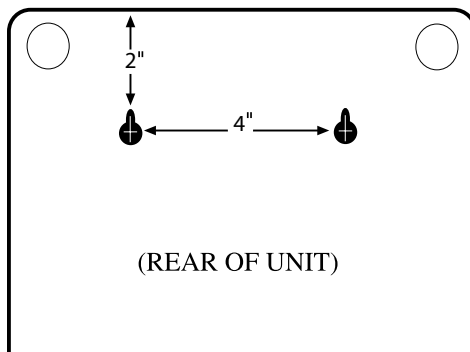

Figure 2-1. Wall Mount
**Flat Mount:** Place the Model 400 on top of a desk or other horizontal surface. **Wall Mount:** Mount on a wall with two flathead screws using the keyholes on the back panel of the unit. Place the flathead screws or bolts 4" apart at the desired height from the floor. Hook the unit over the screws and toward the floor. Refer to Figure 2-1.